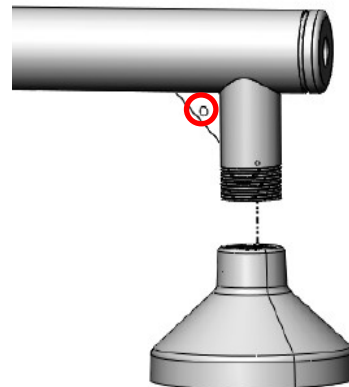

Figure 4
2. Screw Shroud onto end of Parapet Mount Arm (Figure 4)
3. Attached safety wire provided with camera to triangle gusset attached the Parapet Mount Arm. (Red Circle on Figure 4)